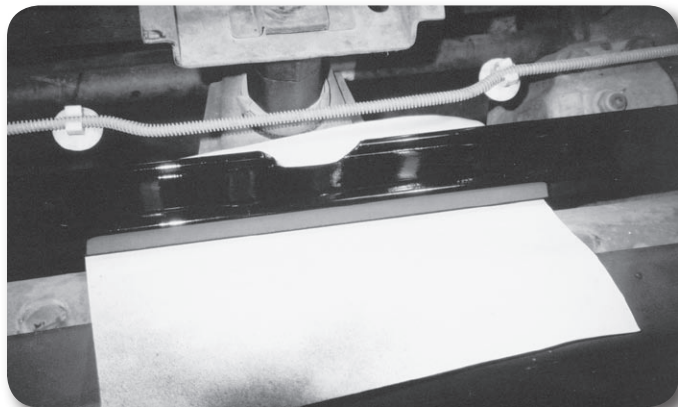

Figure 2
20. Mark the front tie bar support for clearance around the new body mount. Cut the support (Fig. 2) and reinstall it on the vehicle. Reattach the brake lines using the stock plastic fasteners.